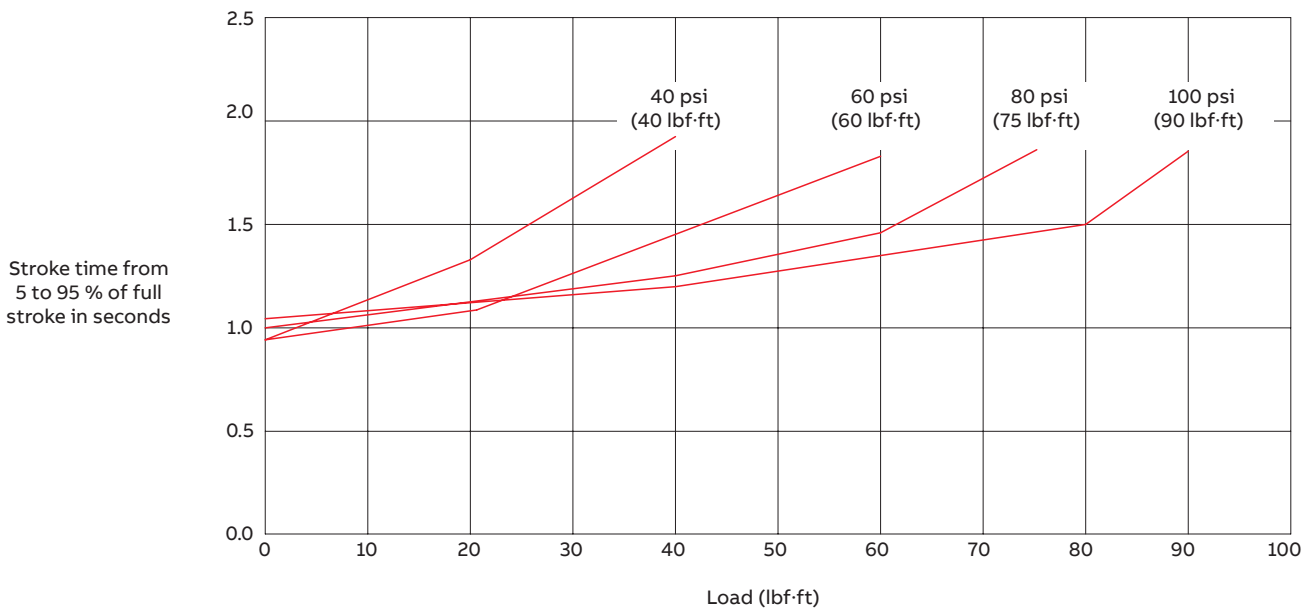

Figure 4 Stroke times for UP1 actuator with AV2 positioner
See Figures 4 to 14 for stroke times for UP with AV positioner and solenoid valve control input options.
- The stroke time curves shown in Figures 4 to 9 were generated from actual tests using an AV232100 positioner. The stroke times are for actuator rotations of 90 % of full stroke (81° of rotation) beginning at 5 % of full stroke (4.5° of rotation) with the actuator at idle (supporting the load) and ending at 95 % of full stroke (85.5° of rotation). To obtain the stroke times shown in the curves: